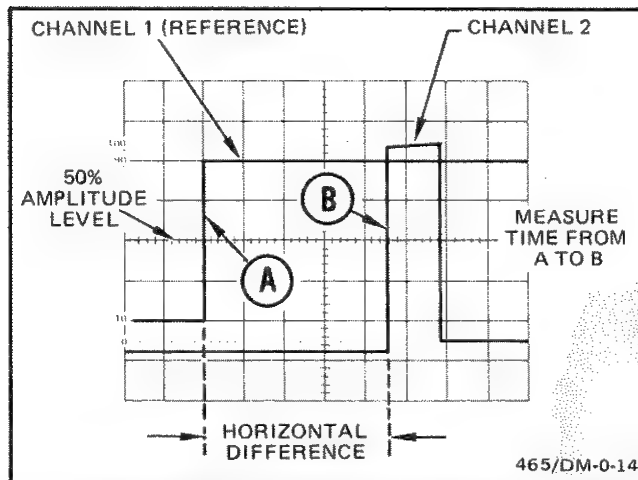

Fig. 20. Time difference between two pulses from different sources.
Set the VERT MODE switch to either CHOP or ALT. In general, CHOP is more suitable for low-frequency signals and the ALT position is more suitable for high-frequency signals. Center each of the displays vertically (see Fig. 20).
**EXAMPLE:** The TIME/DIV switch is set to  $50 \mu\text{s}$ , the MAG switch to X10 and the horizontal difference between waveforms is 4.5 divisions (see Fig. 20).